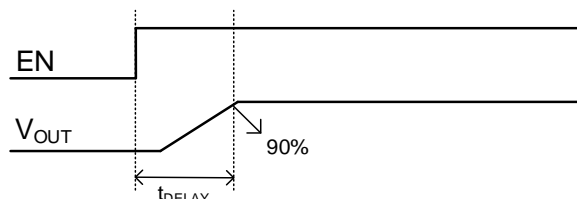

Figure 9: EN On to $V_{OUT} > 90\%$ Delay
The start and stop conditions are signaled by the master device, which signifies the beginning and end of an I²C transfer. The start (S) condition is defined as the SDA signal transitioning from high to low while the SCL is high. The stop (P) condition is defined as the SDA signal transitioning from low to high while the SCL is high (see Figure 9).